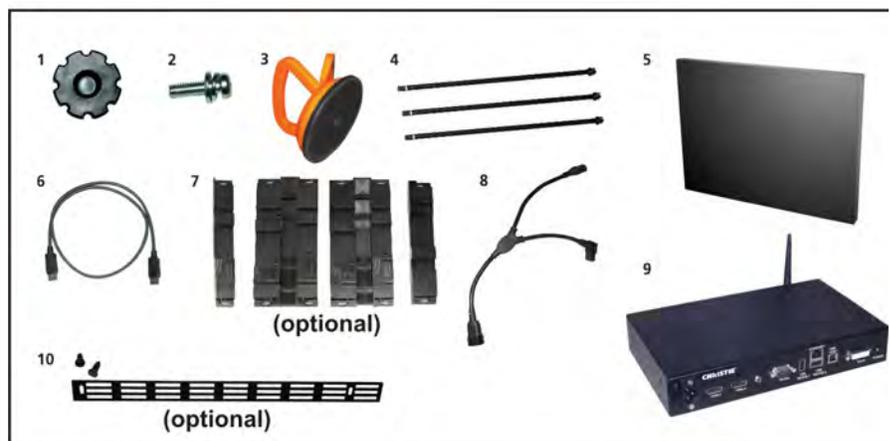

Figure 2-2 Tools and Hardware
For every Christie MicroTiles system you will need Display Units, Screens (one per display unit), External Control Units (ECUs) and Setup Kits (one per nine display units) and a User Kit. This combination provides the tools and hardware shown in **Figure 2-2**. For a complete overview of the available kits, refer to 1.4 Order Guide, on page 1-3. For detailed information, go to www.microtiles.com.
16. **Optional:** Fasten the grilles to the leveling feet, using the supplied fasteners. Refer to **Figure 2-2 Tools and Hardware**, on page 2-3.